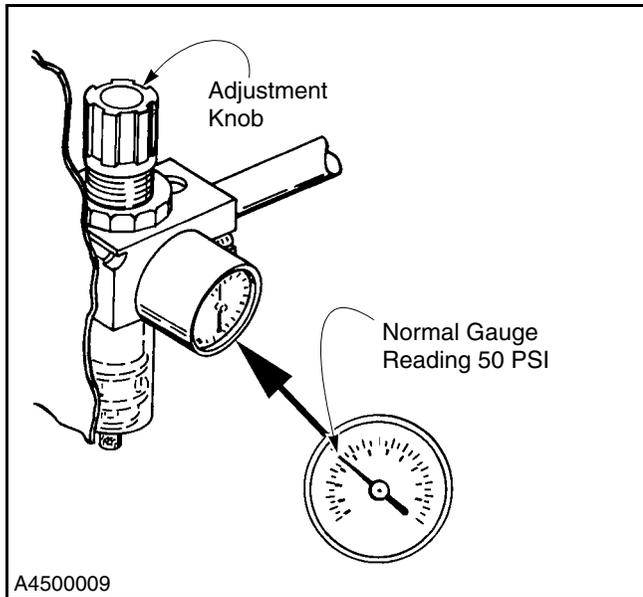

Figure 18
1. Check regulator for proper adjustment. Normal air pressure setting is 50 psi. (See Figure 18.)